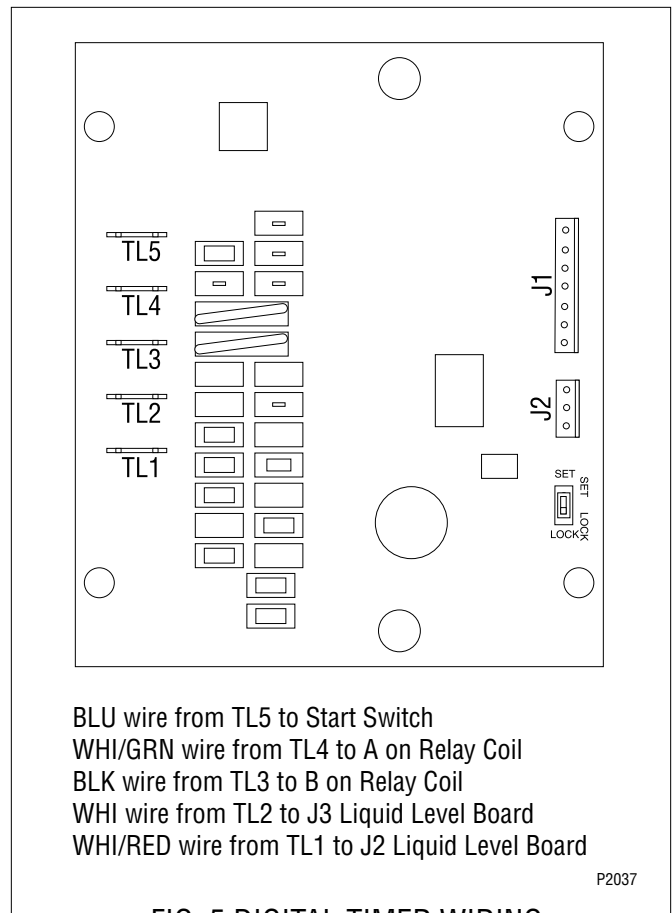

FIG. 5 DIGITAL TIMER WIRING
4. Refer to FIG. 5 when reconnecting the wires.
4. Attach all wires to the replacement timer board prior to installation to the component mounting bracket. Refer to FIG. 5 when reconnecting the wires.